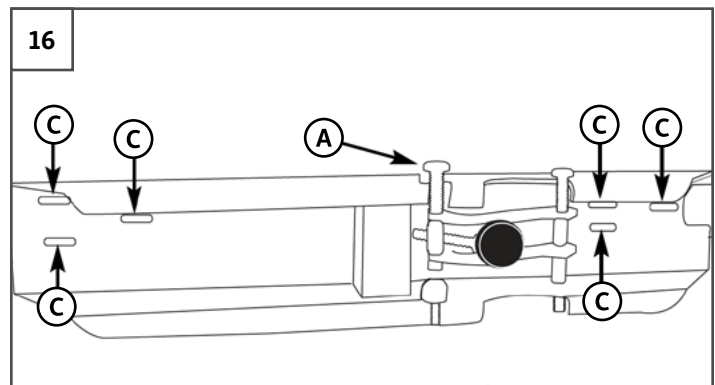

FIGURE 16: MOUNTING SLOT LOCATIONS
2. With a pencil, mark the hole placement in the table apron at the centre of each **MOUNTING SLOT (C)** in the boom mount channel. See Figure 16.